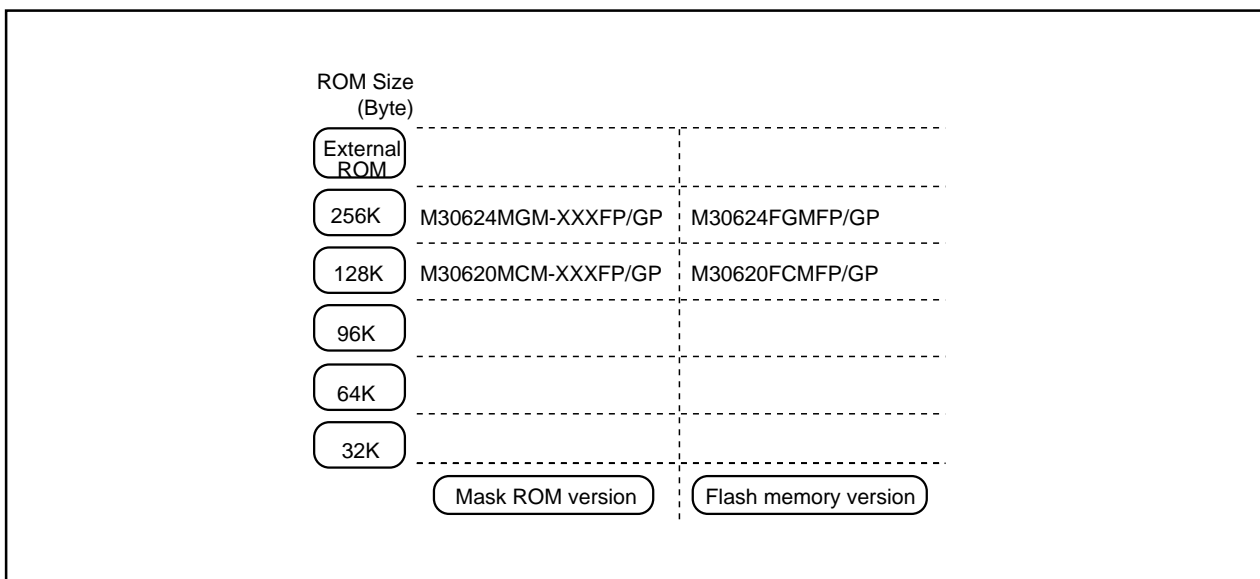

Figure 1.30.4. ROM expansion
- Memory capacity ..... ROM (See Figure 1.30.4. ROM Expansion)